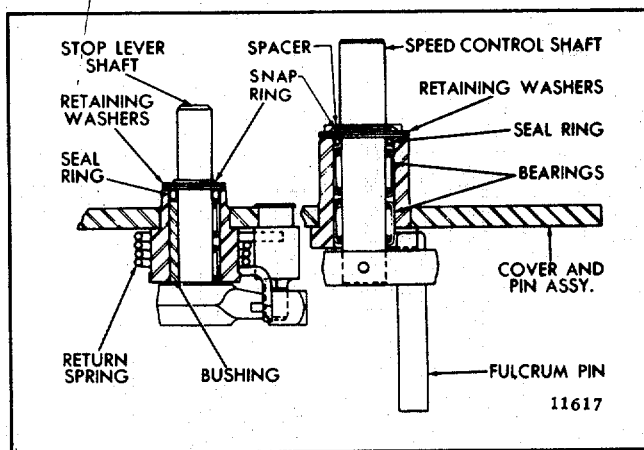

Fig. 6 - Cross Section of Current Governor Cover (other than Fuel Squeezer Engines)
1. Disassemble the governor cover (Fig. 6 or 7) as follows: